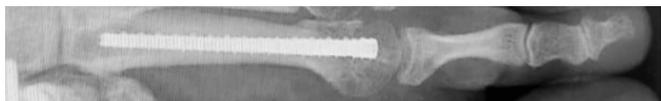

Figure 8
E. Verify placement and proper reduction with multiplanar radiographic imaging. The trailing end of the implant should be buried below the articular surface and not prominent on the metatarsal head. (Figure 8)